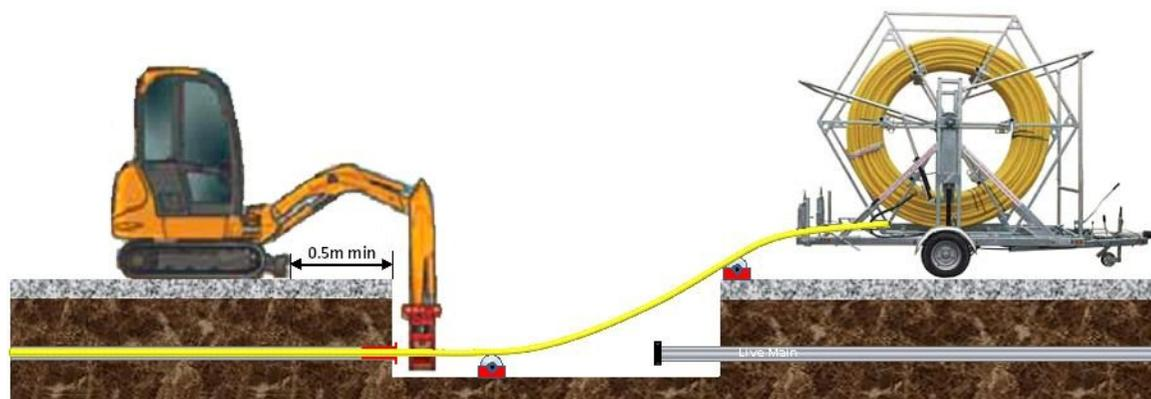

Figure 7 - Typical Insertion Coil Layout - Elevation
1. Position excavator over the host main with the insertion action moving towards the excavator see Figure 7.